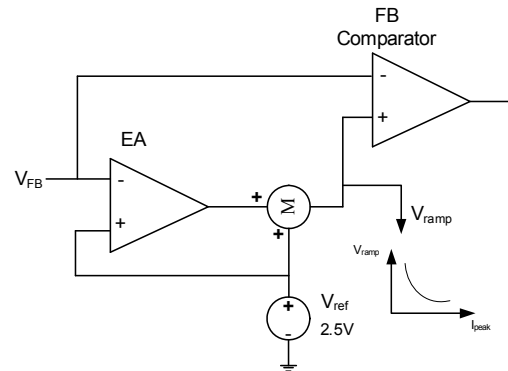

Figure 5: EA and Ramp Compensation
To improve load regulation, the MP155 implements an error amplifier (EA) compensation function ( Figure 5 ). The MP155 samples the feedback voltage 6 $\mu\text{s}$  after the MOSFET turns off. EA compensation regulates the 2.5V reference voltage with the load, thus improving the power module regulation.
An internal ramp compensation circuit precisely maintains the output voltage. An additional exponential voltage sinking source pulls down the feedback comparator's reference voltage as shown in Figure 5. The ramp compensation is relative to the load conditions: Under full-load conditions, the compensation is ~1mV/ $\mu\text{s}$ ; with a decreasing load, the compensation increases exponentially.